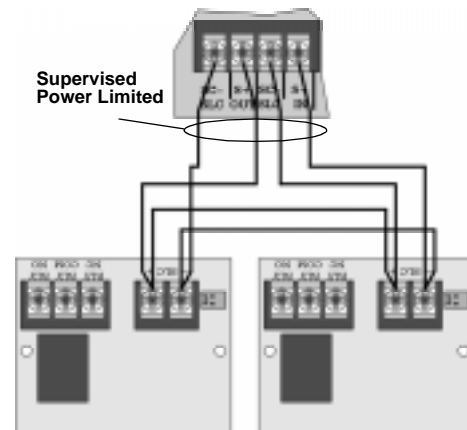
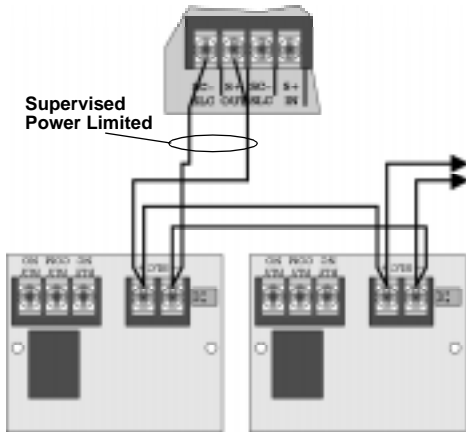

Figure 2: Class A (Style 6) SLC Wiring
Figure 3: Class B (Style 4) SLC Wiring
Figure 2 illustrates how to wire the SD505-6RB to the SLC loop connectors for Class A (Style 6) supervision.
Figure 3 illustrates how to wire the SD505-6RB to the SLC loop connectors for Class B (Style 4) supervision.
2. Wire the SLC loop as shown in Figure 2 or Figure 3.